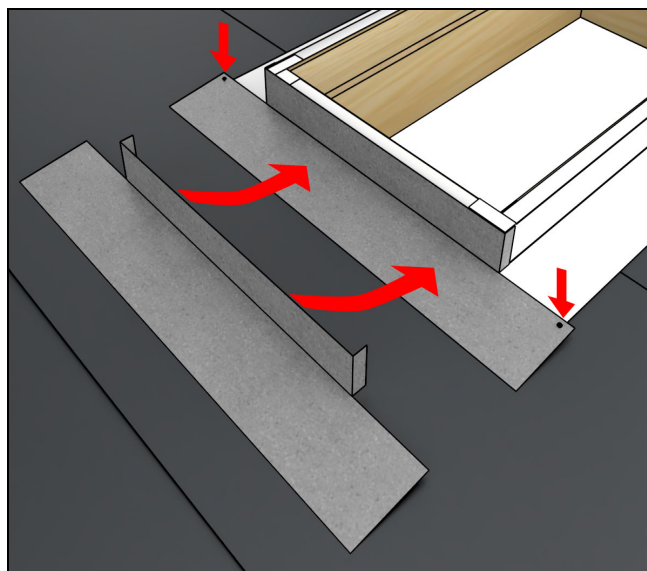

Figure 35
**7.** Place the sill saddle centered on the frame and bend over tabs. See Figure 35.